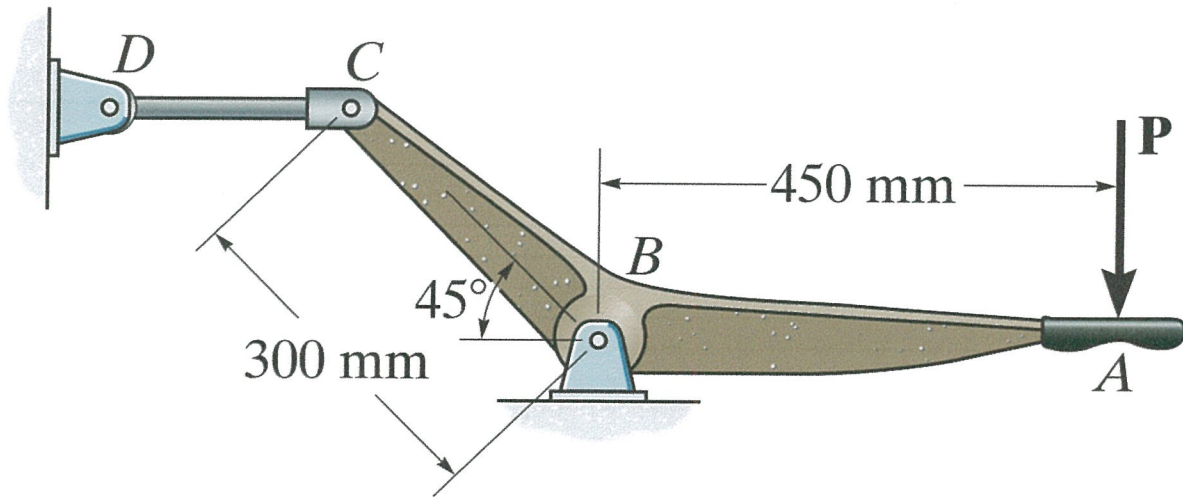

Figure Q1(b)
- (b) A vertical force of $P = 1800 \text{ N}$ is applied to the bell crank as shown in **Figure Q1(b)**.